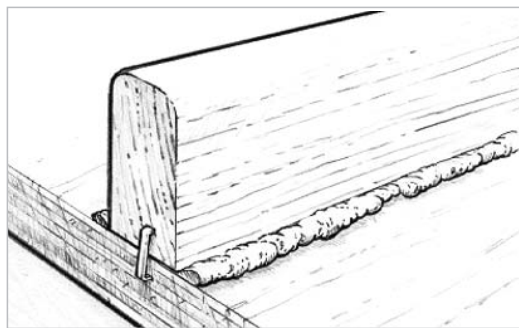

Figure 9-10 A small amount of epoxy will squeeze out of the joint with just the right amount of thickened mixture and clamping pressure.
3. Clamp components. Attach clamps as necessary to hold the components in place. Use just enough clamping pressure to squeeze a small amount of the epoxy mixture from the joint, indicating that the epoxy is making good contact with both mating surfaces (*Figure 9-10*). Avoid using too much clamping pressure, which can squeeze all of the epoxy mixture out of the joint.